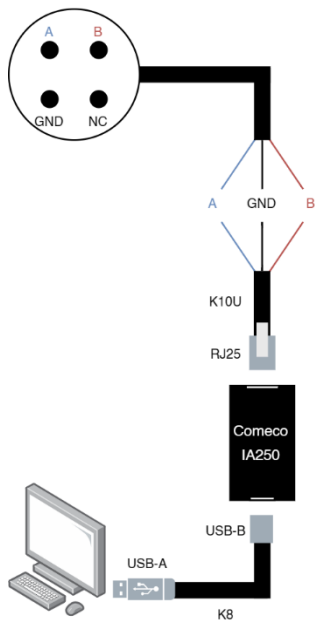

Fig.2
3. Communication coupling – to connect the ST130 to a PC, a communication adapter IA250 is used with a special cable to it and the PolyMonitor software (see fig. 2).